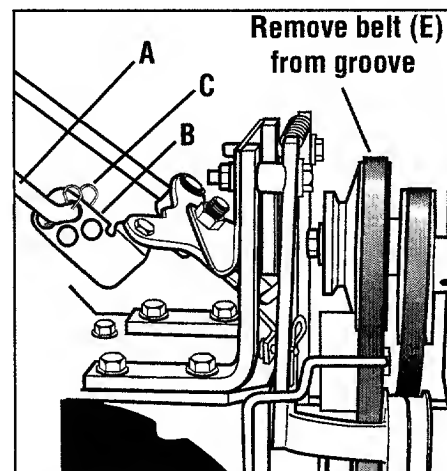

Figure 5-9: Disconnect Forward Clutch Rod and move forward drive belt out of groove in engine forward drive pulley.
2. Disconnect the Forward Clutch Rod (A, Figure 5-9) from the swivel plate (B) by removing the innermost hairpin cotter (C).
5. Slip the forward drive belt (E, Figure 5-9) off the engine driven forward drive pulley by pushing it off (away from the engine) with your left hand while pulling the engine starter rope with your right hand.